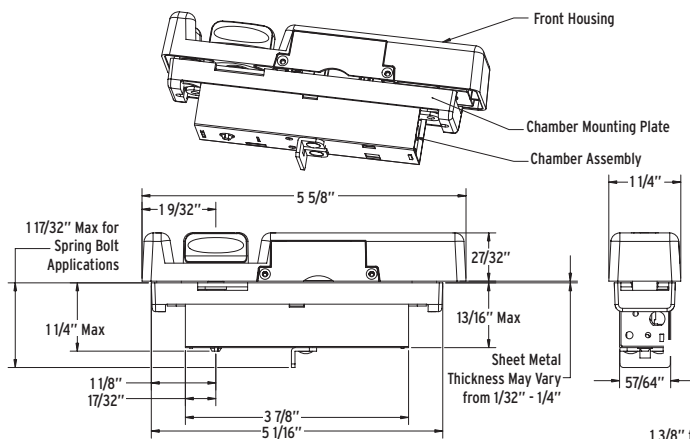

FIGURE 1 - METAL APPLICATION
Refer to Figures 1 - 4 for possible spring and dead bolt positions. (A) Cross throw position, (B) End throw position.